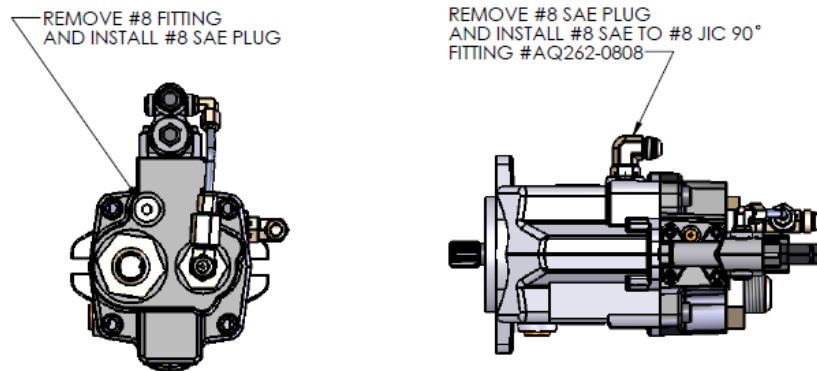

Figure 5
1. Before installing the pump to the Hydra-Drive swap the case fitting from the back to the side of the pump. See figure 5.